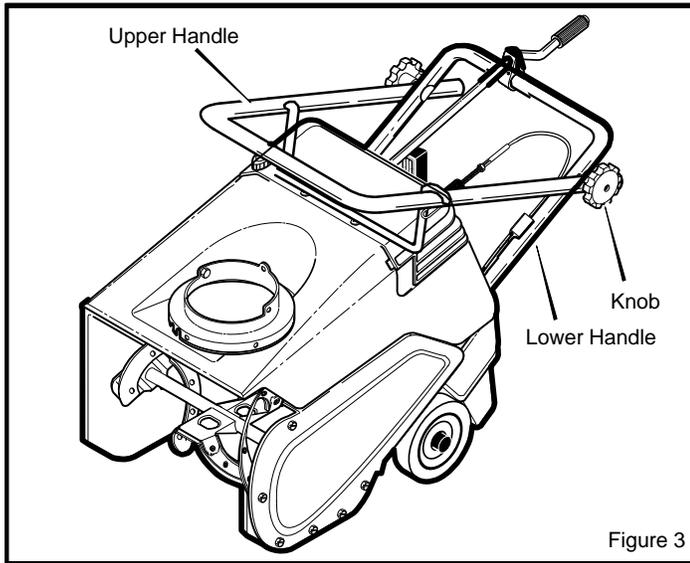

Figure 3
2. Loosen the **knobs** on each side of the **handle**. (See Figure 3)